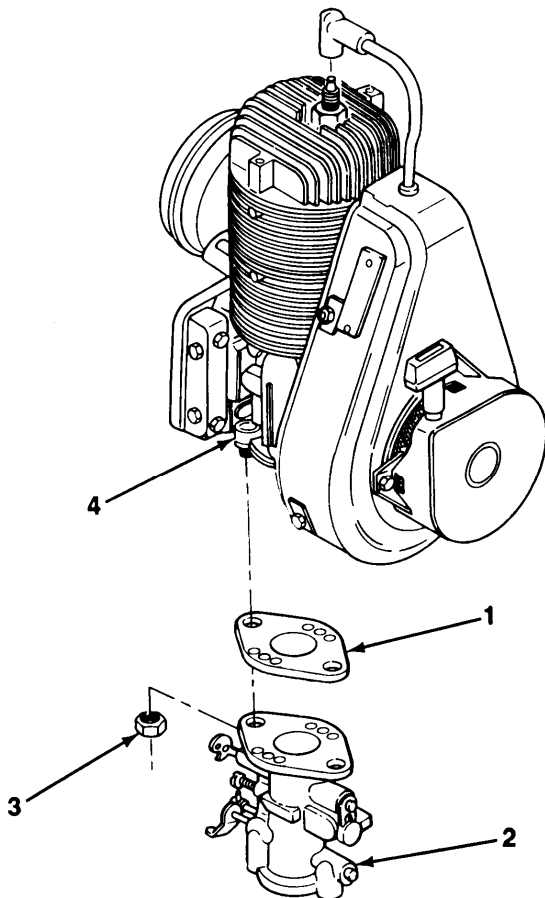

Figure 7-1. Carburetor Replacement.
**Refer to Figure 7-1, *Carburetor Replacement*, for step d.**
- d. Remove two nuts (3), carburetor (2), and gasket (1) from reed plate (4). Discard gasket.
Refer to Figure 7-1, *Carburetor Replacement*, for step a.